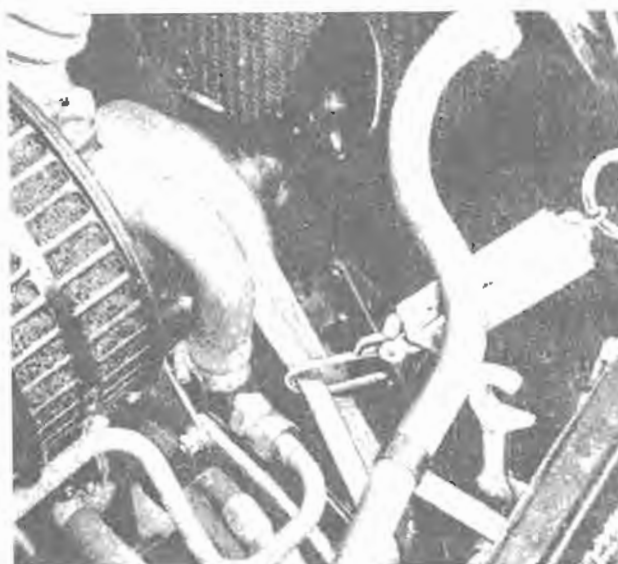

Fig. M.2.—Checking Fan Belt Tension.
Every 5,000 miles, the driving belt should be checked for correct tension. Apply an 18 lbs. load mid-way between dynamo and coolant pump pulleys. Adjust belt tension to give $\frac{1}{2}$ " deflection. For twin belt drives, apply a 14 lbs. load to each in turn. (See Fig. M.2.)
- (i) Inspect the driving belt and adjust if necessary. (See Fig. M.2.)